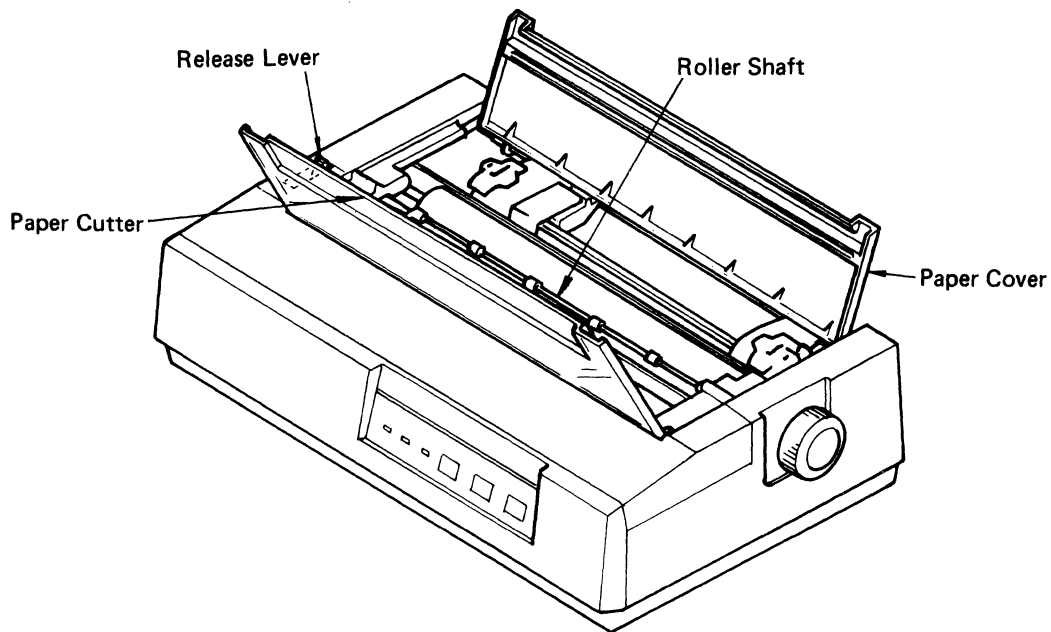

Fig. 6 Paper Insertion (1)
- (1) Open the paper cover.
- (2) Open the paper cutter, and pull the roller shaft toward the front of the printer.
- (3) Pull the release lever toward the front. (See Fig. 6.)